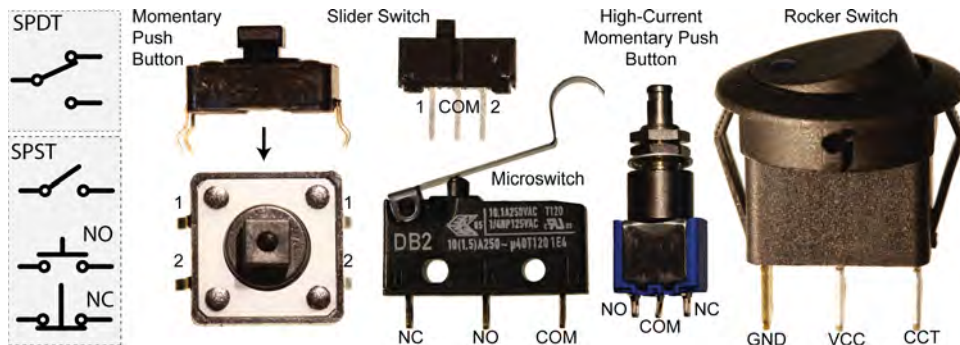

Figure 4-19: Various switches and configurations
Other components with which you are likely to need to work are switches and buttons. They come in many different forms: toggle, push button, selector, proximity, joystick, reed, pressure, temperature, etc. However, they all work under the same binary principles of either interrupting the flow of current (open) or enabling the flow of current (closed). Figure 4-19 illustrates several different common switch types and outlines their general connectivity.
Momentary push button switches (SPST, single pole, single throw) like the one illustrated in Figure 4-19 are either normally open (NO) or normally closed (NC). NO means that you have to activate the switch to allow current to flow, whereas NC means that when you activate the button, current does not flow. For the particular push button illustrated, both pins 1 and both pins 2 are always connected, and for the duration of time you press the button, all four pins are connected together. Looking at slider switches (SPDT—single pole, double throw), the common connection (COM) is connected to either 1 or 2 depending on the slider position. In the case of microswitches and the high-current push button, the COM pin is connected to NC if the switch is pressed, and is connected to NO if the switch is depressed. Finally, the rocker switch illustrated often has an LED that lights when the switch is closed, connecting the power (VCC) leg to the circuit (CCT) leg.